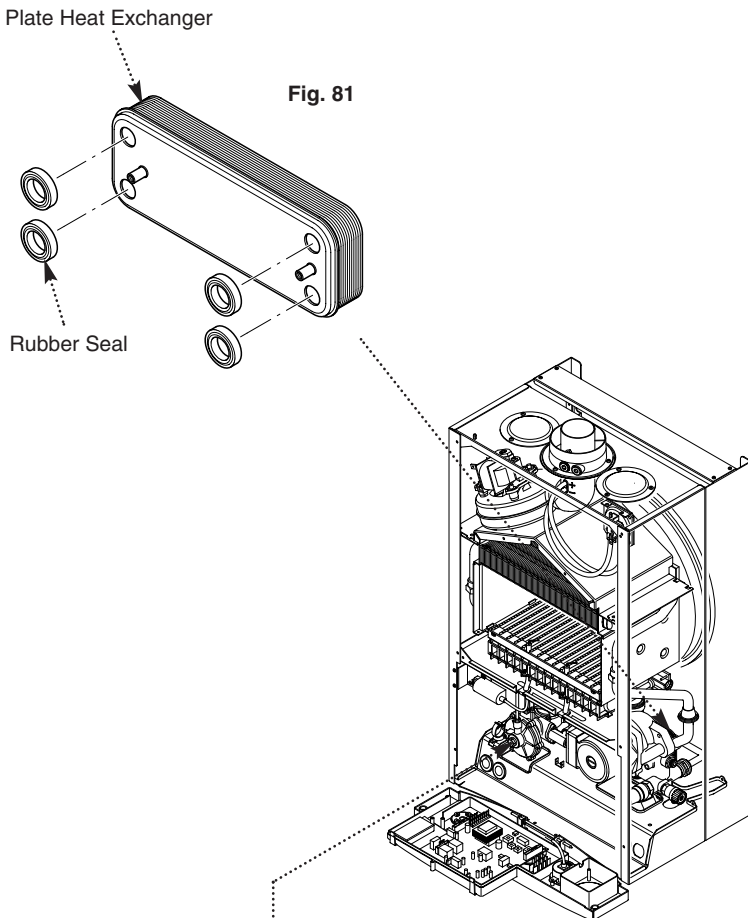

Fig. 81
12.20 Plate Heat Exchanger (Fig. 81)